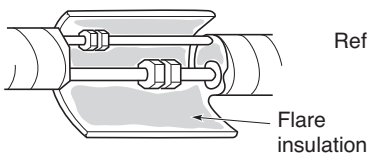
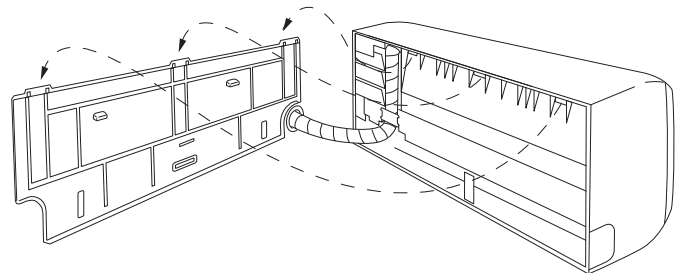

Fig. 37a
Fig. 36
- (2) Push the wiring, refrigerant tubing, and drain hose through the hole in the wall. Adjust the indoor unit so it is securely seated on the rear panel. (Fig. 36)
- (3) Carefully bend the tubing (if necessary) to run along the wall in the direction of the outdoor unit and then tape as far as the fittings. (See Caution on page 25.) The drain hose should come straight down the wall to a point where water runoff won't stain the wall.
- (4) Connect the refrigerant tubing to the outdoor unit. (After performing a leak test on the connecting part, insulate it with the tubing insulation. (Fig. 37a)) Also, refer to Section 5-4. Connecting Tubing between Indoor and Outdoor Units.